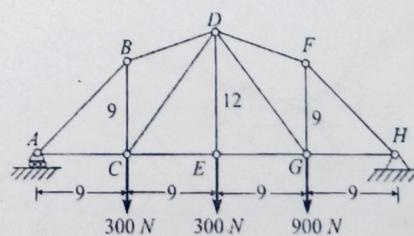

Fig 2.90
2) Find the forces in the members of the pin jointed truss loaded as shown in fig 2.90 Tabulate the results.